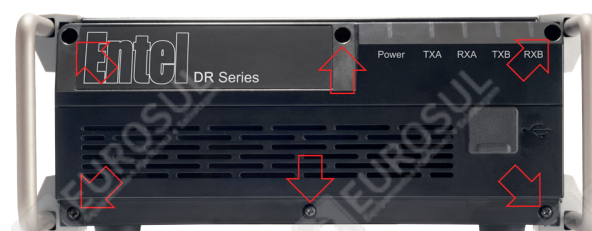

Figure 5
- c. Use a PH1 screwdriver to remove six screws from the front panel as per the red arrows in Figure 5 below.